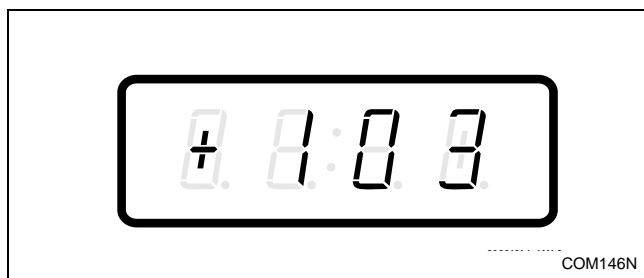

Figure 175
3. Press the DELICATES (+) or the COLD (-) keypad to scroll through the programmable options until “+103” appears in the VFD. Refer to *Figure 175*.